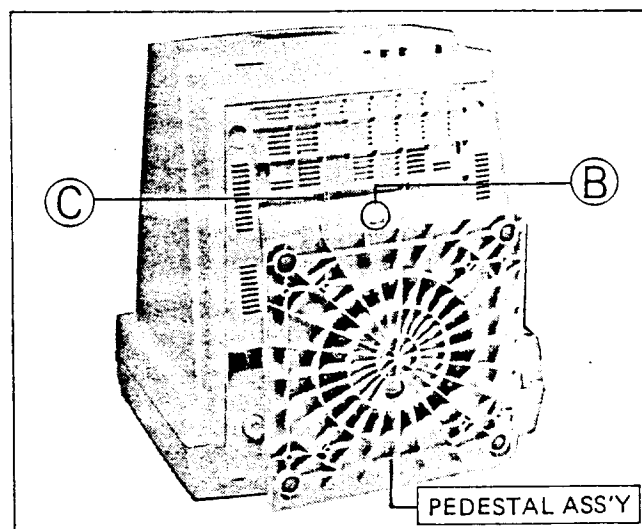

Fig. 2
1. Pull the Lock Knob of PEDESTAL ASS'Y marked (B) shown in Fig. 2, and remove the PEDESTAL ASS'Y.
- * When the PEDESTAL ASS'Y has been removed, the metal fittings marked (C) can be removed.